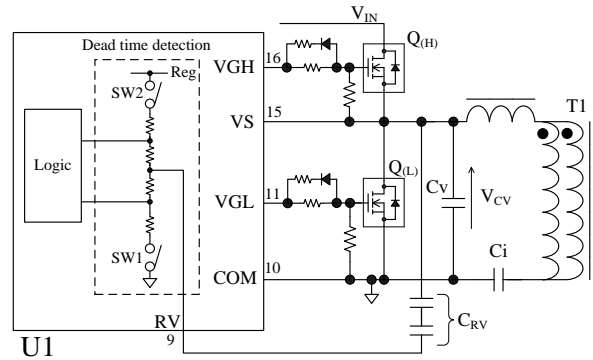

Figure 8-19 RV pin peripheral circuit and dead time detection circuit
Figure 8-19 shows the RV pin peripheral circuit and the internal dead time detection circuit. The external components for this function is only high-voltage ceramic capacitor,  $C_{RV}$ , connected between the VS pin and the RV pin. The value of  $C_{RV}$  is about 5 pF.
After  $Q_{(L)}$  turns off, SW2 is turned on while SW1 is kept on state. The resonant current flows through  $C_V$ ,  $C_i$  and  $T1$  (refer to Figure 8-19) and the  $C_V$  voltage,  $V_{CV}$ , increases from 0 V. When  $V_{CV}$  becomes Equation (11), the resonant current flows through the body diode of  $Q_{(H)}$  and  $V_{CV}$  is clamped  $V_{IN} + V_{F(H)}$ . The period that until  $V_{CV}$  is clamped after  $V_{CV}$  starts to increase is defined as the voltage resonant period.
After Q(H) turns off, SW1 is turned on while SW2 is kept on state. The resonant current flows through Cv, Ci and T1 (refer to Figure 8-19) and the Cv voltage, VCV, decrease from the input voltage, VIN. When VCV becomes Equation (12), the resonant current flows through the body diode of Q(L) and VCV is clamped - VFL. The period that until VCV is clamped after VCV starts to decrease is defined as the voltage resonant period.